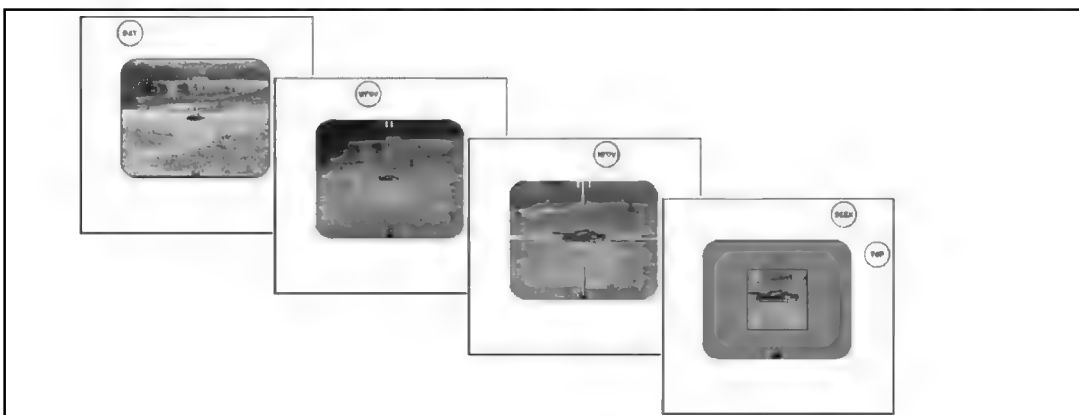

Figure 4-20. Fields of view.
a. **Target Images.** There are some differences in the way a target appears in each field of view. (Figure 4-20)
- (1) **Day FOV:** full-color visible light image, 4x magnification of target.
- (2) **WFOV:** black-and-green infrared image, 4x magnification of target.
- (3) **NFOV:** black-and-green infrared image, 9x magnification of target.
- (4) **Seeker FOV:** black-and-green infrared image, 9x magnification of target.